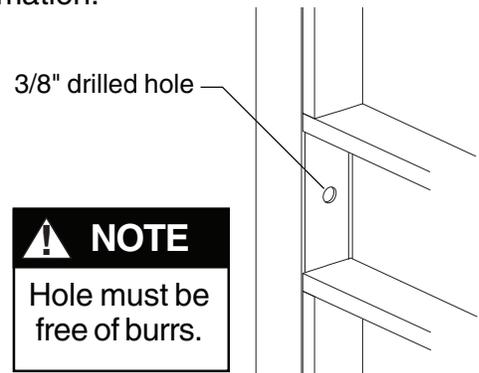

Figure 6-1
- 6** Drill 3/8" hole in door as shown to route wiring through (Figure 6-1). See "RX Switch Wiring" on back cover for wiring information.